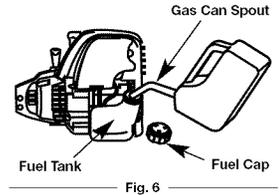

Fig. 6
- Remove the fuel cap (Fig. 6).
- Place the gas container's spout into the fill hole on the fuel tank (Fig. 6) and fill the tank.